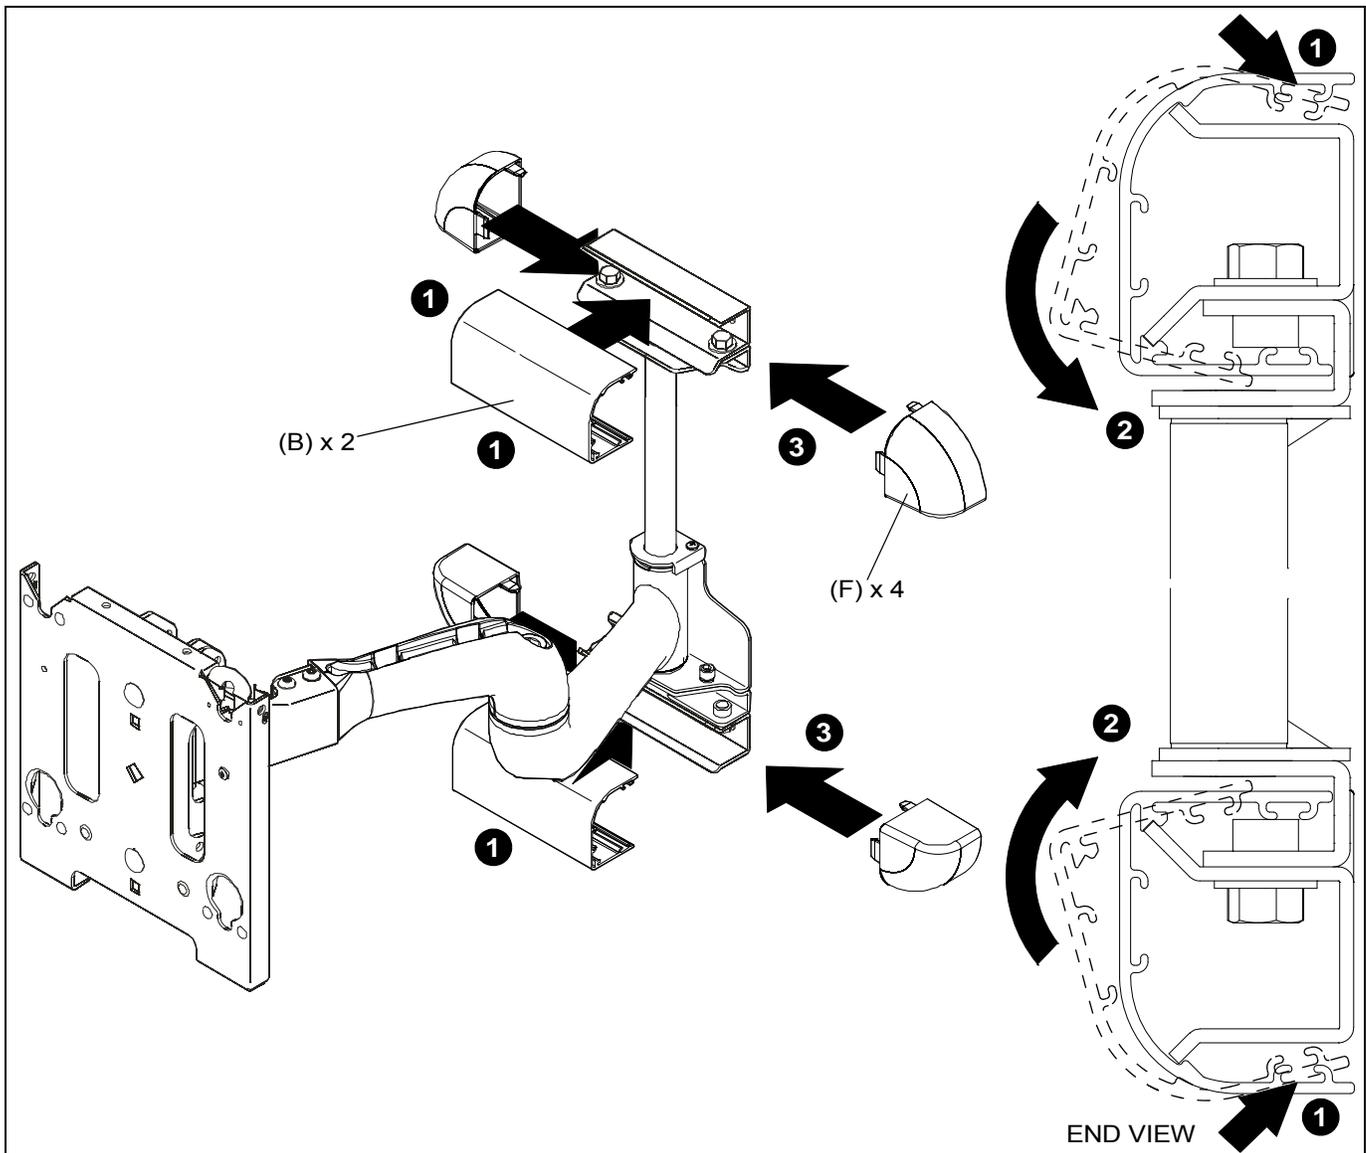

Figure 4
1. Install upper and lower wall channel covers (B) by tipping cover top down and positioning as shown in end view of figure below. (See Figure 4)
2. Tap firmly across bottom of channels to lock in place as shown in figure below. (See Figure 4)
3. Install four R.H. and L.H. end caps (F) by aligning tabs on end caps (F) with slots in wall channel covers (B) and sliding tabs in until end caps (F) are flush with wall channel covers (B). (See Figure 4)